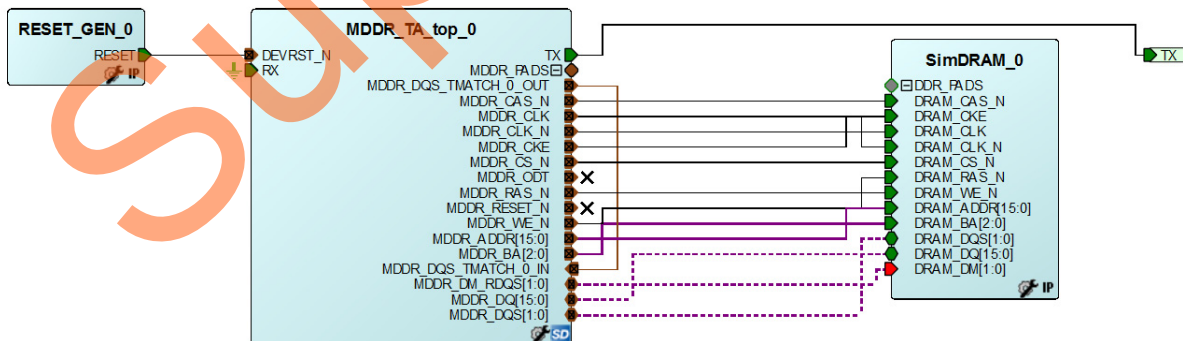

Figure 24 • SmartDesign Testbench for Example Design with Microsemi LPDDR SDRAM VIP
5. Make the connections as described in "Simulation using Micron LPDDR SDRAM model" section on page 14. The connections are same as the Micron model. Figure 24 Shows the SmartDesign testbench for the example design with Microsemi LPDDR SDRAM VIP model.